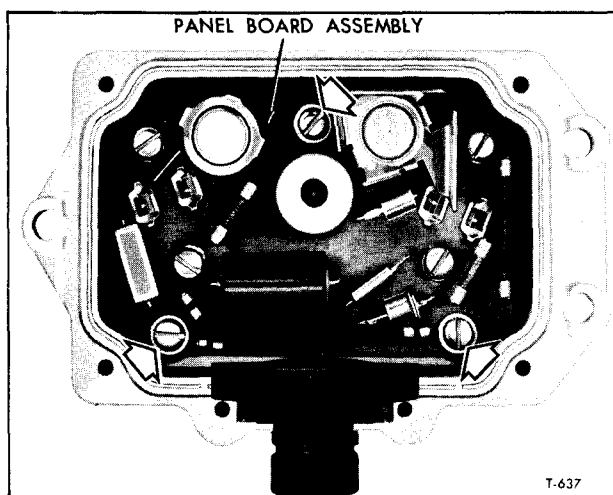

Figure 26—Regulator with Bottom Plate Removed
1. Remove the bottom plate from the regulator (fig. 26).
2. Remove the three panel board attaching screws identified by arrows (fig. 26), and lift the assembly from the housing.